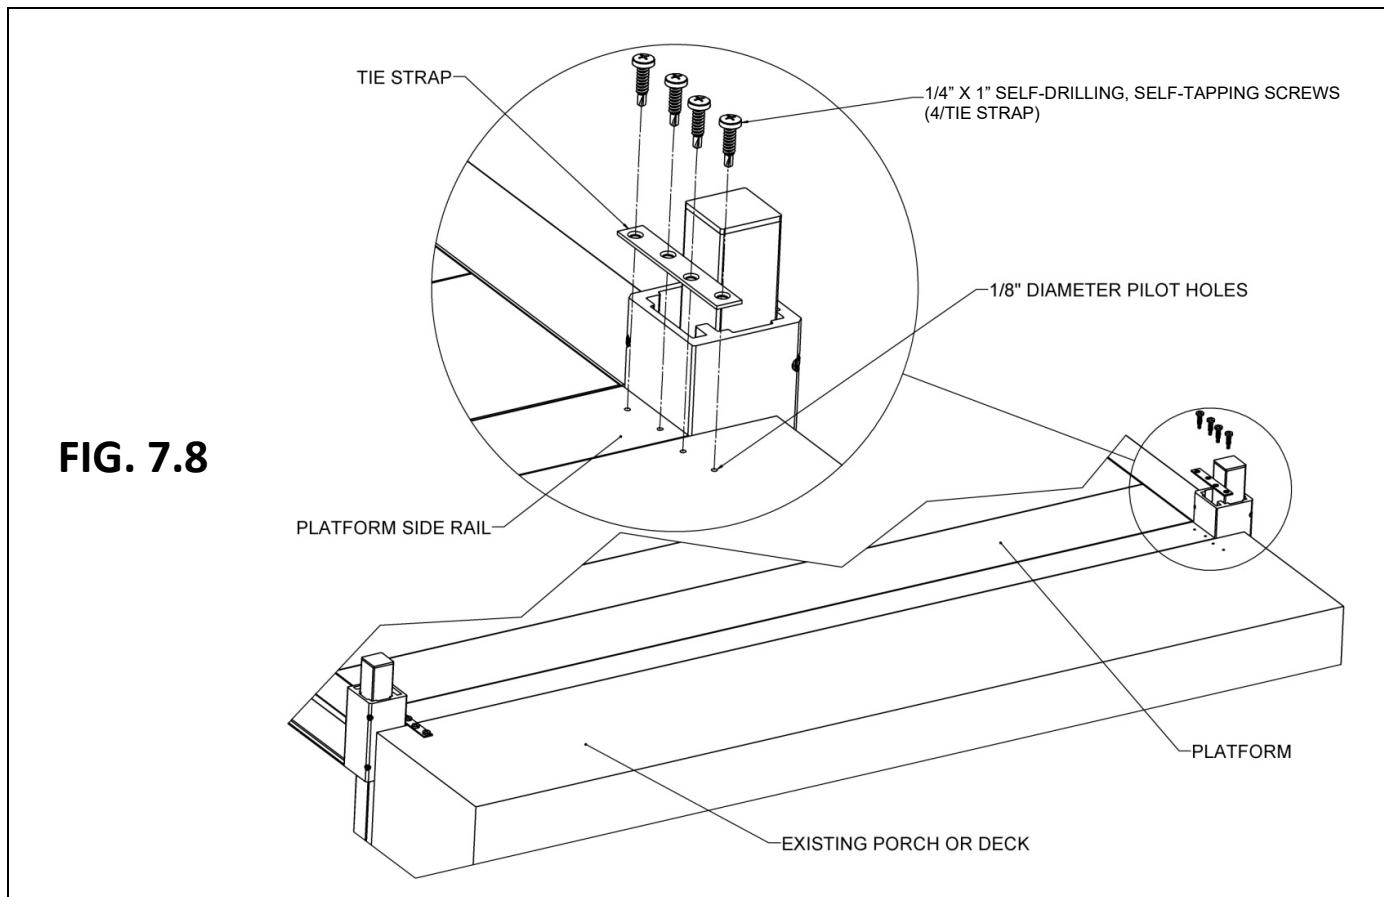

FIG. 7.8
- 7.5.2. Position straps next to the platform corner pockets, extending equally onto the platform and the existing surface (FIG. 7.8).